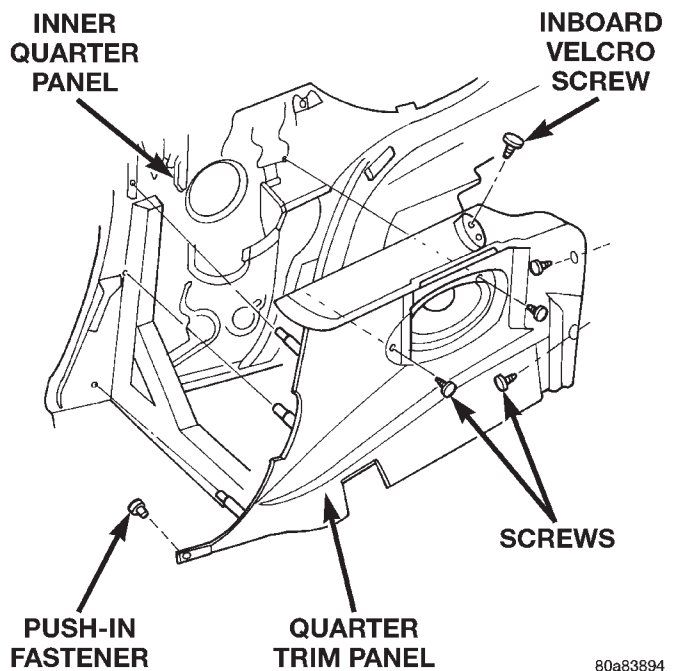

Fig. 61 Quarter Trim Panel
- (6) Remove vertical screws and inboard velcro screw holding quarter trim panel to inner quarter panel (Fig. 61).
- (7) Remove screws holding quarter trim panel to inner quarter panel through the speaker opening.
- (8) Remove screws holding quarter trim panel to inner quarter panel at rear of trim panel.
- (9) Remove push-in fasteners holding quarter trim panel to inner quarter panel at front of trim panel.
- (10) Pull trim panel from inner quarter panel and disconnect speaker wiring connector.
- (11) Separate quarter trim panel from vehicle.